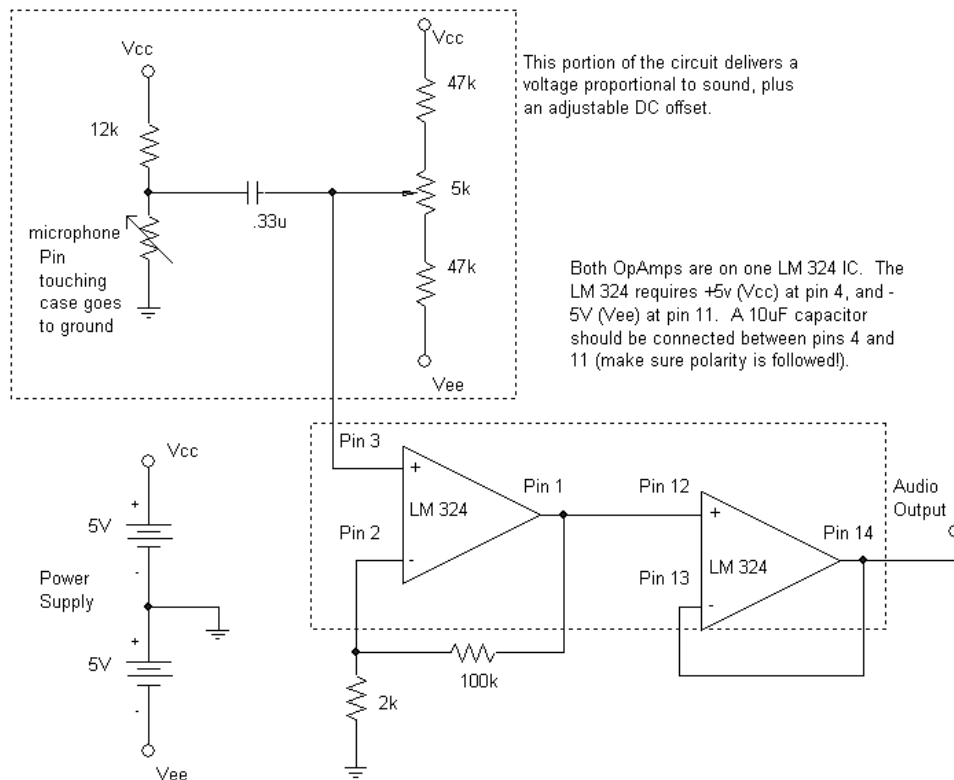

Fig. 3: Amplifier Circuit
1. Construct the circuit in **Fig. 3**.
4. Attach the black banana to the ground of the LC circuit. Plug the BNC into the oscilloscope (CH2), which will now display your received and modulated signal! The cable and scope act as a 1 megaohm resistor in parallel with several picofarads. Refer to **Fig. 4** for the circuit layout. If the receiver signal is too weak, design an amplifier circuit such as in **Fig. 3** that has a gain of few hundreds. Connect the amplifier from the receiver antenna before connecting it to oscilloscope CH2.